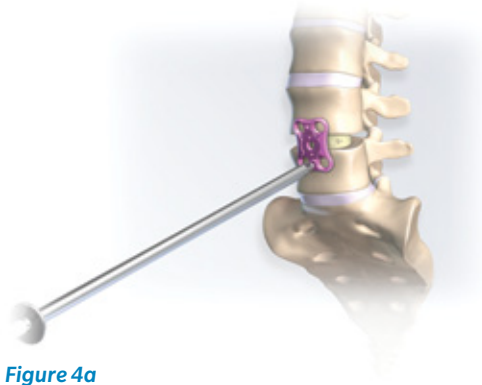

Figure 4a
- The plate may be held in place with a temporary fixation pin which is introduced with the temporary pin inserter (**Figure 4a, b**).